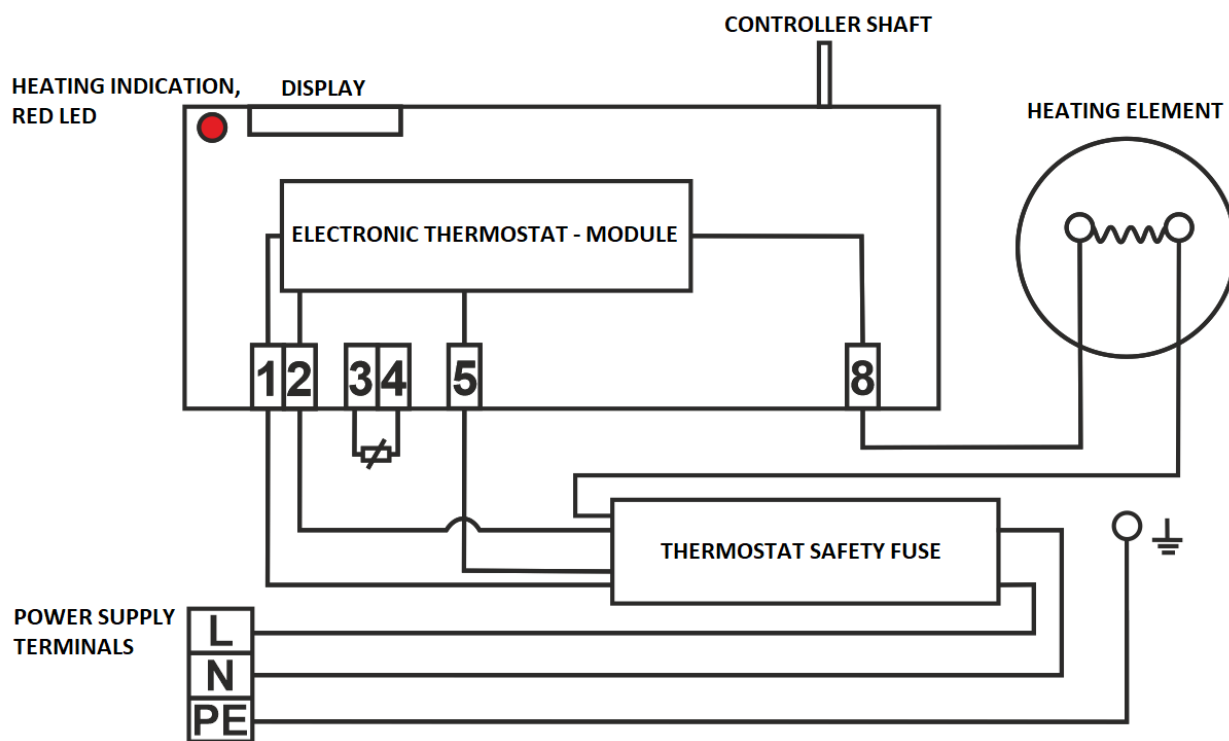

Figure 7
Factory connection must not be changed! (Figure 7). The degree of protection of electric parts of the heater is IP 44. The power input of electric element is 2.000 W
- The wiring diagram is attached to the heater on the side of the electric installation cover (Figure 7).